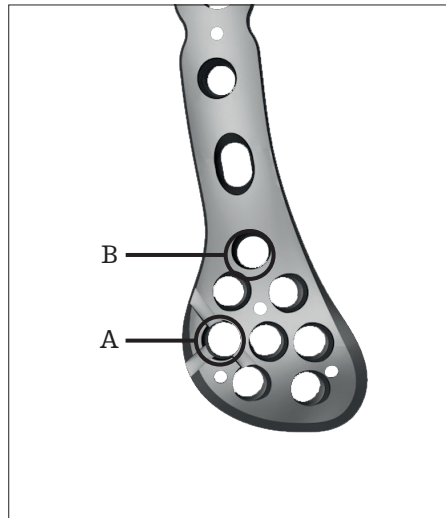

Fig. 22
**The targeter attachment hole (A) and the metaphyseal non-locking hole (B) do not allow locking screw fixation. They accept non-locking screws only (fig. 22).**